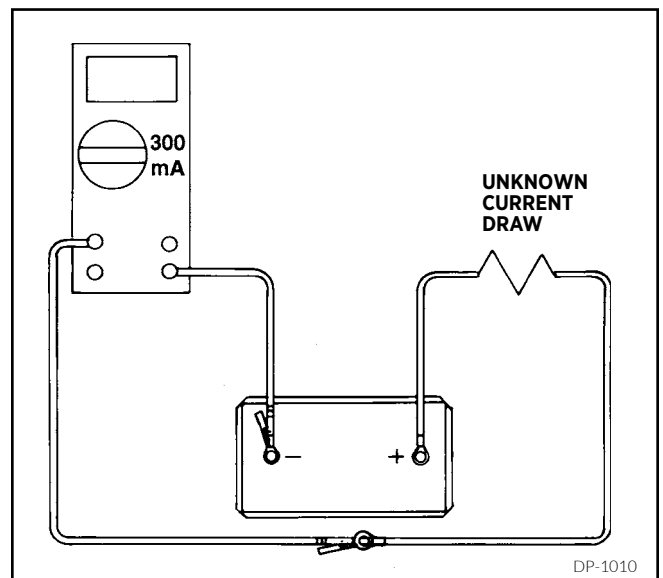

FIGURE 1-5. In-Line Ammeter
2. Figure 1-5 shows an in-line digital ammeter used to measure an unknown current draw. An example of this might be the result of a parasitic load. On the 10 amp scale, the current would be too low to be measurable. However, with the meter on the 300 mA scale, the current draw in milliamps can be read.